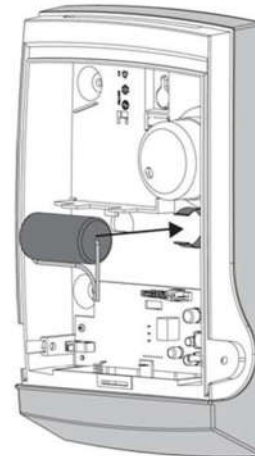

Figure 4
5. Place the battery as instructed in figure 4 and wait until the red/green LED stops blinking.